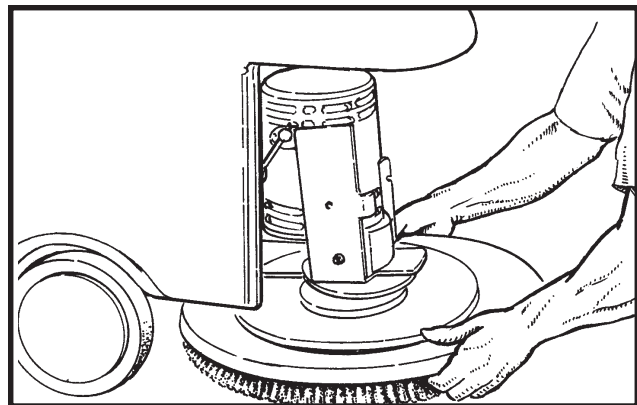

Figure 5c
6. Put a brush or pad driver under the brush housing. See figure 5c.